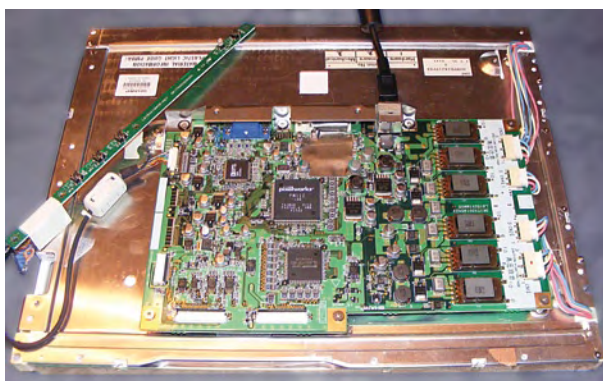

Figure 1. The panel with its electronics hidden beneath a sheet-metal screen.
So the first operation consists of dismantling the monitor (which must, of course, at least be able to light up), leaving only the panel with its electronics hidden behind a sheet-metal screen (Figure 1). Then carefully dismantle the screen and the TFT or LCD panel, which is often held in place by a piece of black adhesive tape that must be removed so you can detach the screen and disconnect its connector. Be careful: it's made of quite thin glass and breaks easily (depending on local regulations, dispose of this in the general waste container, not in the glass recycling bin).
An example of the structure of a C program is shown in **Figure 1**. The program begins with `main()` and runs through all the statements one after the other (sequentially). Sometimes certain sections of code are skipped. This is determined by a statement with an expression which can be either true (1) or false (0), for example with the **if-else** command: